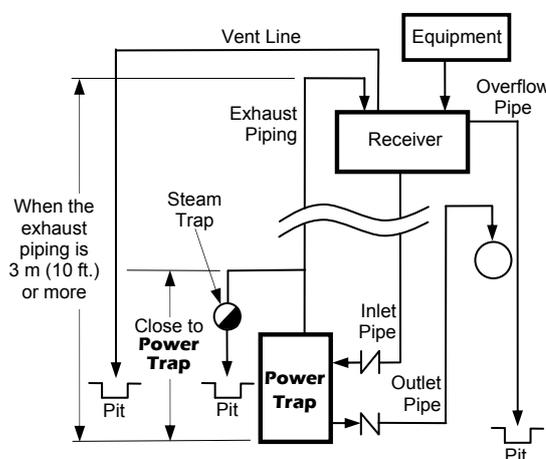

Figure 1: Open Systems
- For Open Systems only:** Add a float-type steam trap to the exhaust pipe at a point just above where the exhaust pipe exits the unit body. (Figure 1)